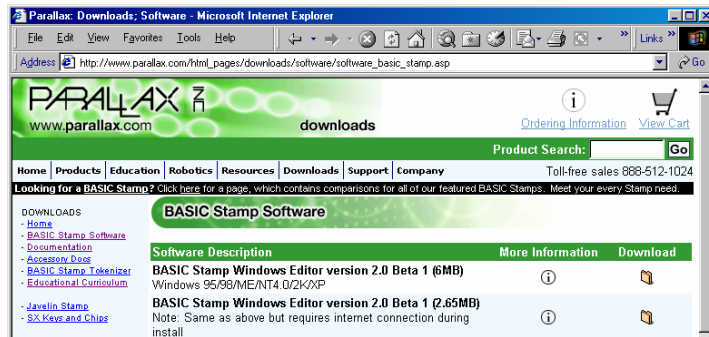

Figure 1-9
- ✓ Click the *Download* icon. In Figure 1-9, the download icon looks like a file folder to the right of the description: “BASIC Stamp Windows Editor version 2.0 Beta 1 (6MB)”.